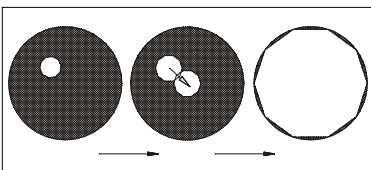
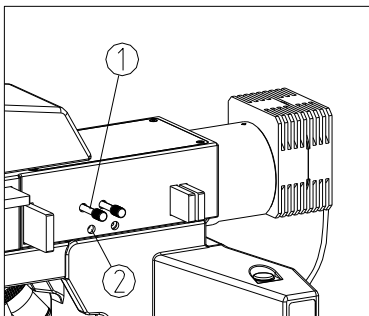

Fig.27
Fig.28
(3) Move the 20X objective into light path and focus the specimen.
(4) Rotate the field diaphragm adjustment ring ③ to open the field diaphragm to the smallest position, then the image of field diaphragm can be observed through eyepiece.
(5) Rotate the condenser up-down knob to adjust the image to the clearest.
(6) Adjust the condenser center adjusting screw ④ to put the image to the center of the field of view.
(7) Open the field diaphragm gradually. If the image is in the center all the time and inscribed to the field of view, it shows the condenser has been centered correctly. (See Fig. 27)
(8) In actual use, enlarge the field diaphragm a little, to make its image circumscribed to the field of view.
(1) Push the field diaphragm adjustment pole^① to the innermost, to minimize the field diaphragm (See Fig. 28).
(2) The image of field diaphragm can be observed in the view field through eyepiece.
(3) Adjust the two field diaphragm centering screws^② on the both sides of illuminator with the hexagon spanner, until the image is in the center.
(4) Open the field diaphragm gradually, if the image of field diaphragm is inscribed with the field of view, then the field diaphragm is centered correctly (See Fig. 27).
(5) In actual use, enlarge the field diaphragm a little, to make its image circumscribed to the field of view.